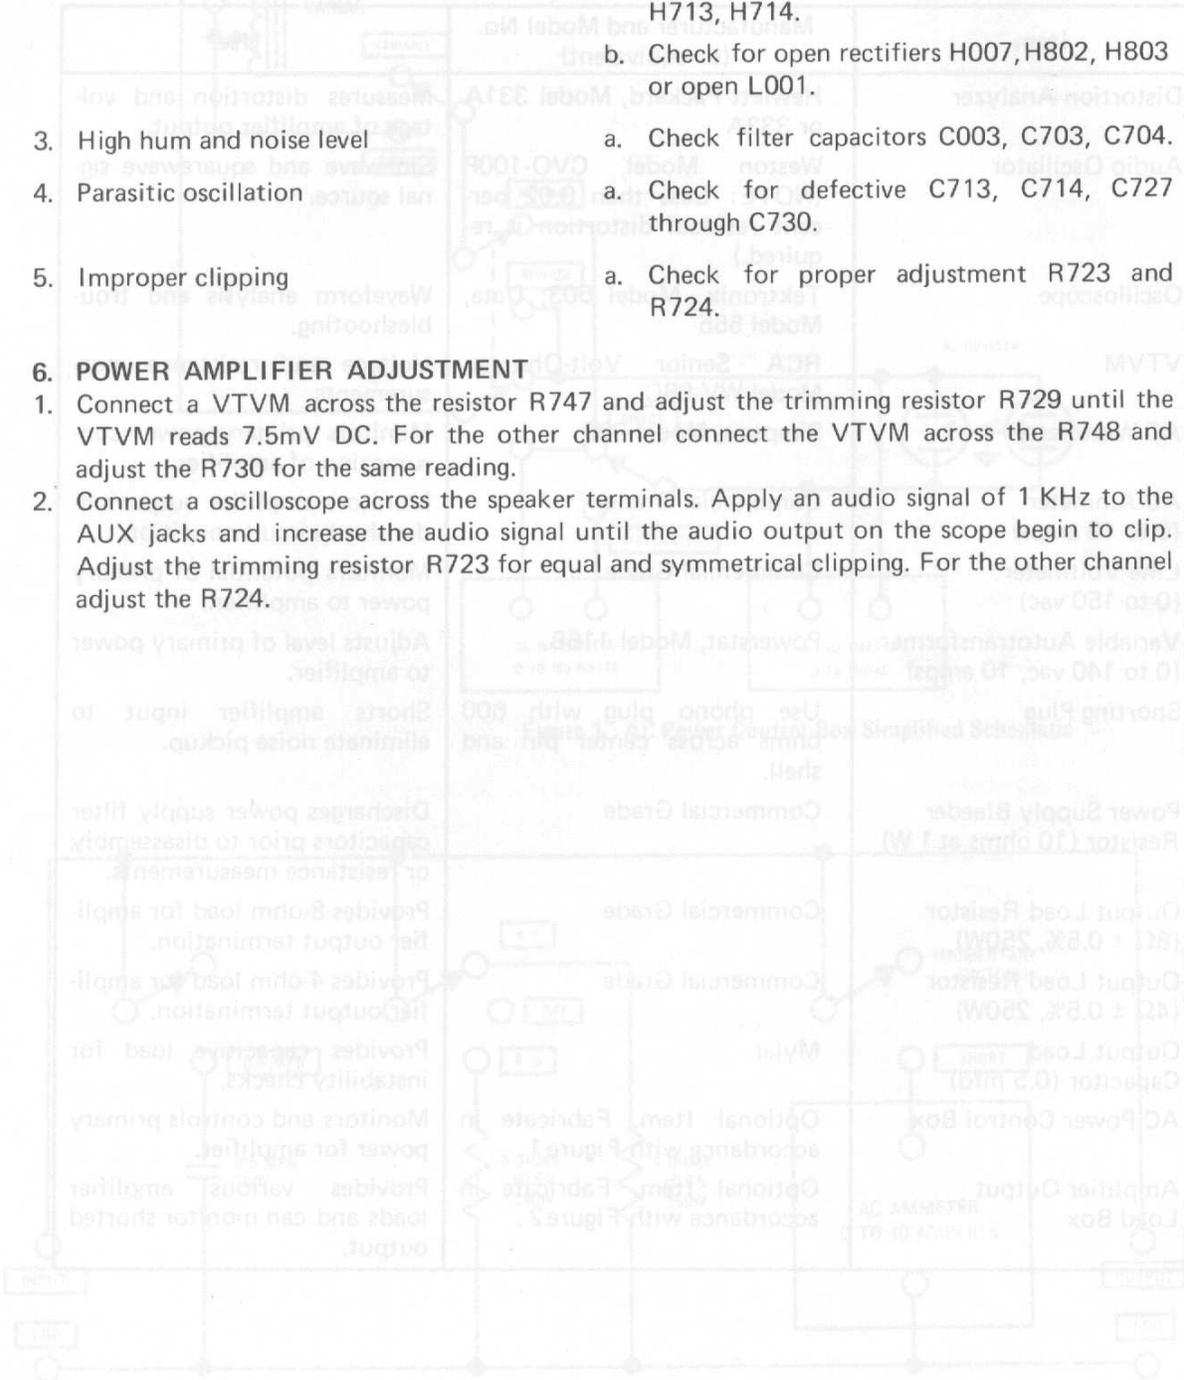
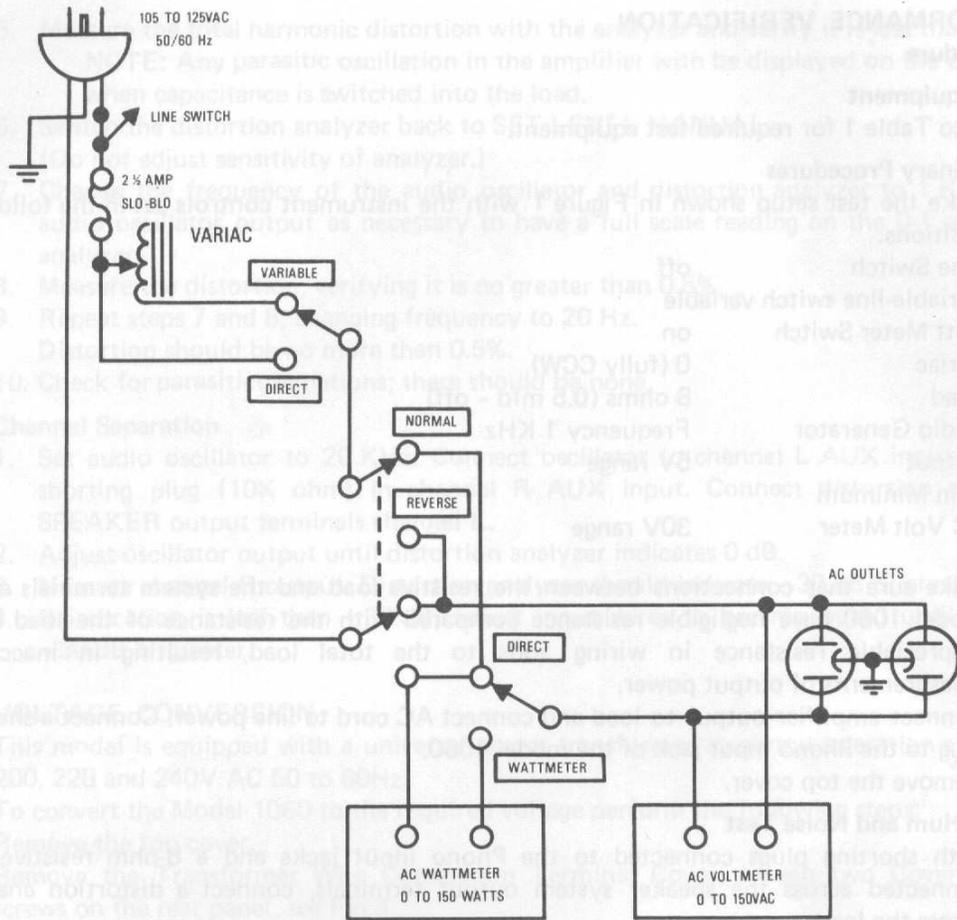

Figure 2. Amplifier Output Load Box Simplified Schematic
Figure 1. AC Power Control Box Simplified Schematic
Table 1 lists the test equipment required for servicing the Model 1060 Stereo Console Amplifier. The wattmeter, ac voltmeter, and variac may be assembled as a test fixture as shown schematically in Figure 1, and the load resistors and ac ammeter may be assembled into a second test fixture as shown in Figure 2.
1. Make the test setup shown in Figure 1 with the instrument controls set in the following positions: